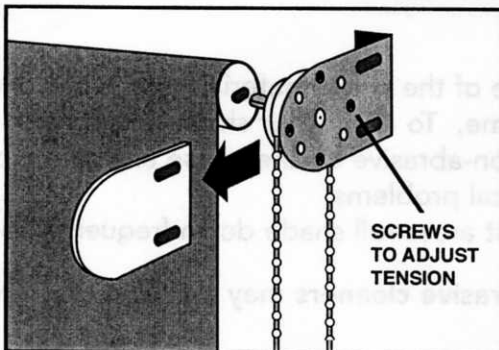

Figure 9
(chain is difficult to pull), slide off bracket cover and loosen four (4) screws: turn counter clockwise. See (Fig. 9)
(chain pulls too easily), slide off bracket cover and tighten four (4) screws: turn clockwise. See (Fig. 9)